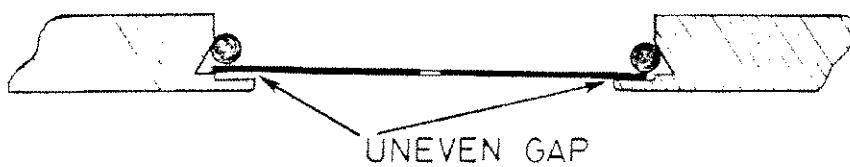

Figure 4.2.2
2. Fit the grid aperture into the grid cap. Fit the spring which holds the aperture in. Check that the aperture is correctly seated in its recess in the grid cap. If any gap can be seen between the aperture and the grid then it is not seated properly (See Figure 4.2.2.).